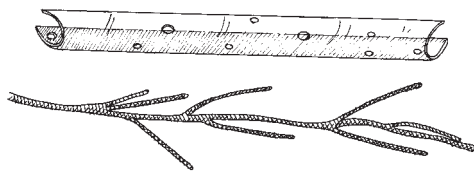

fig 9
1. Orientate the replacement vein with the tube as shown **fig 9**.